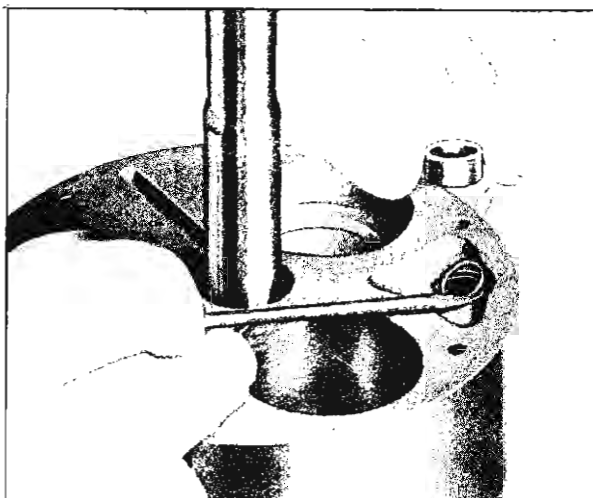

Fig. 39—Installing Discharge Crossover Tube Front "O" Ring and Spacer
3. Install the discharge crossover tube front "O" ring and spacer (fig. 39).